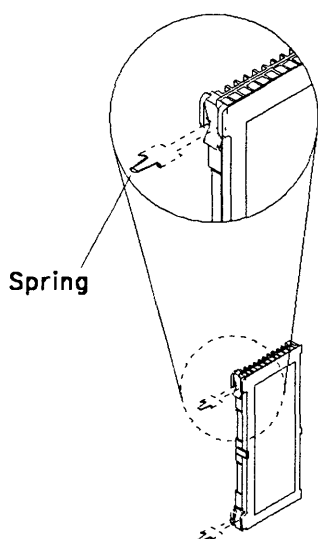

Figure 5-56. Shipping Springs
- b. If present, remove the 'shipping springs' that secure the extractor levers by squeezing them together. Refer to Figure 5-56.
- a. Press the 'Function' key on the control panel until the 'MOSS IML' function (1) is displayed.
- b. Remove the 'shipping springs' (if present) that secure the extractor levers by squeezing them together. Refer to Figure 5-56 on page 5-59.